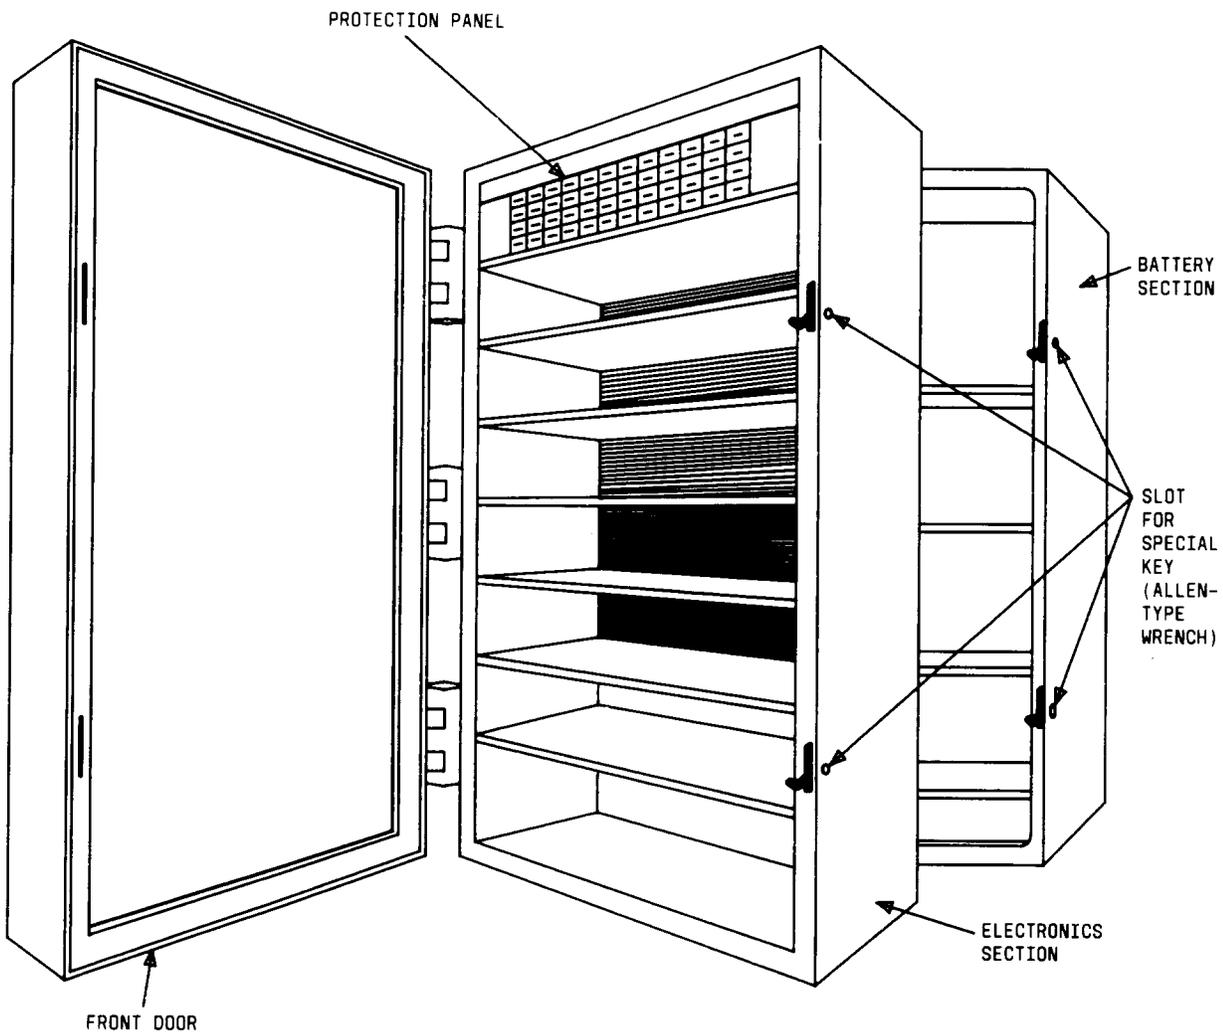

Fig. 1—51-Type Cabinet
1. Use special key (allen-type wrench) to open front door of cabinet (Figure 1).